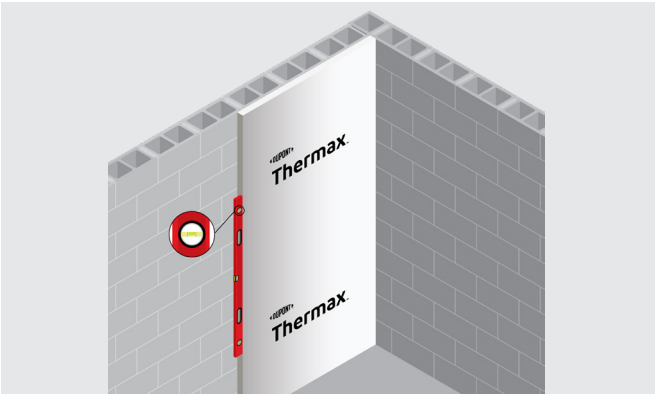

Figure 1
- When installing **Thermax™ Brand Insulation**, boards must fit tightly together vertically and at right angles (90 degrees). (See Figure 1.) End-joint gaps greater than 1/8" should be filled with spray foam such as **Great Stuff Pro™ Gaps & Cracks Polyurethane Foam Sealant*** or equivalent to keep a continuous air infiltration barrier and to help ensure maximum thermal efficiency across the board joints.